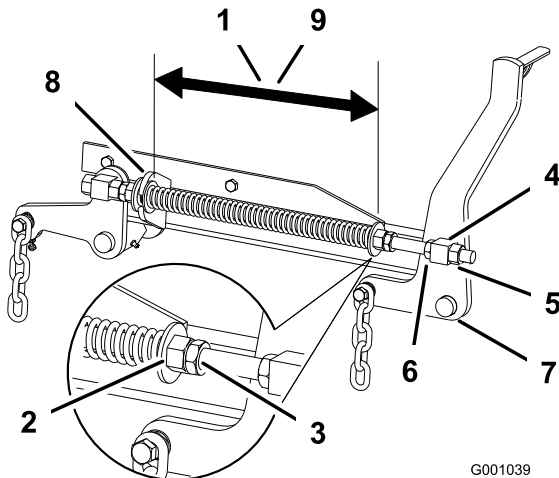

Figure 83
2. Check the distance between the 2 large washers, it needs to be 28.2 cm (11-1/8 inches) for 52-inch mower decks and 26.7 cm (10-1/2 inches) for 60-inch mower decks (Figure 83).
3. To adjust this distance, loosen the spring jam nut and turn the nut in front of each spring (Figure 83). Turn the nut clockwise to shorten the spring; counter-clockwise to lengthen the spring.
4. Lock the nut into position by tightening the spring jam nut (Figure 83).